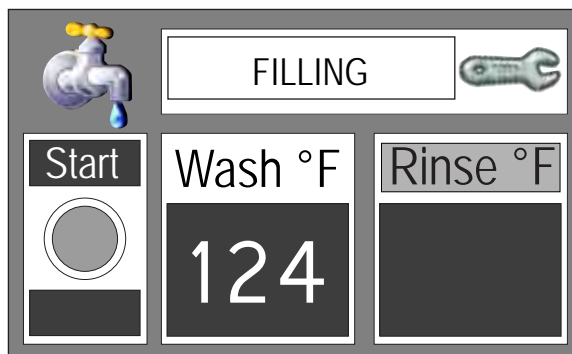

Fig. 17
- 2** Touch 'RESET' and then 'MAIN' to clear the 'CHECK DRAIN' message. The display will return to the 'FILLING' shown in Fig. 17.